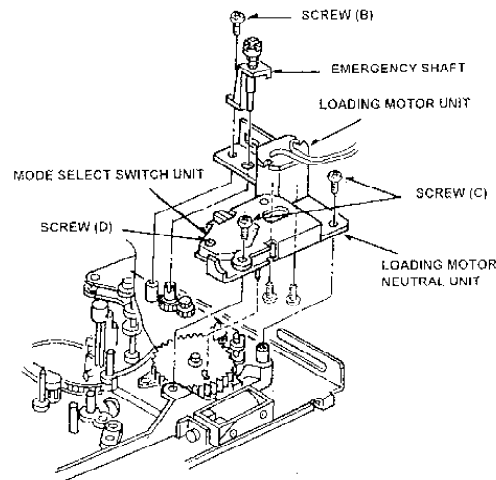

Fig.6-10-1 Removal of mode Select Switch Unit
- 6. Unscrew the 2 screws (B) and remove the supply Brake Solenoid from Supply Brake Solenoid Base Unit as shown in Figure 6-10-1.**
5. Remove the Pinch Solenoid Unit and Loading Motor Neutral Unit (Refer to **item 6-9**).
6. Remove the screw (D) and remove the Mode Select Switch Unit from Loading Motor Neutral Unit as shown in **Figure 6-10-1**.